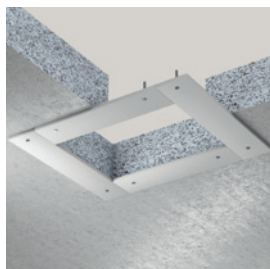

Fig. 1:
- / If the thickness of the rigid wall or rigid floor in the area of the through penetration firestop system is less than the required minimum seal thickness, then all around the opening, either an enclosing lining (see Fig. 3) or a board frame (see Fig. 1 & 2) of non-flammable drywall or silicate or calcium silicate boards (class A2-s1, d0 or A1 in accordance with EN 13501-1) must be provided, so that the ZZ-Fire protection foam 2K NE rests on the lining or the board frame and the wall/floor over the entire thickness of the through penetration firestop system.
- / If the thickness of the flexible wall in the area of the through penetration firestop system is less than the required minimum seal thickness, then all around the opening, either an enclosing lining (see Fig. 3) or a board frame (see Fig. 1 & 2) of non-flammable drywall or silicate or calcium silicate boards (class A2-s1, d0 or A1 in accordance with EN 13501-1) must be provided, so that the ZZ-Fire protection foam 2K NE rests on the lining or the board frame and the wall over the entire thickness of the through penetration firestop system.